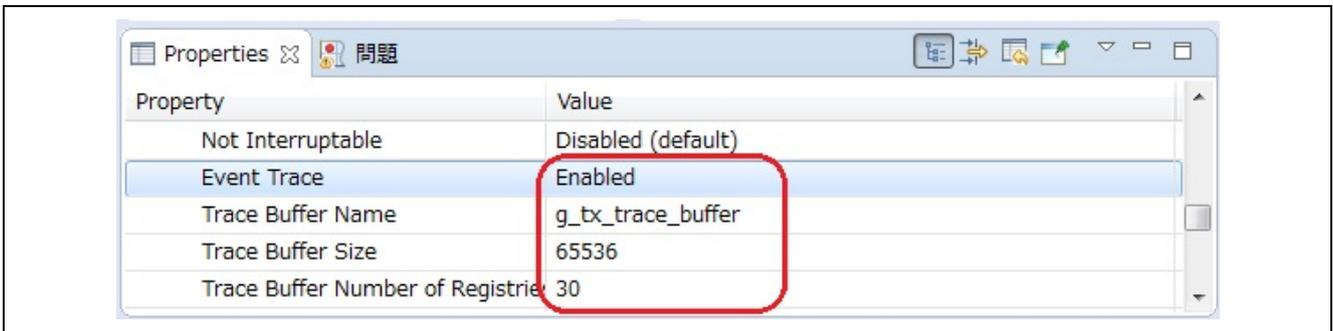
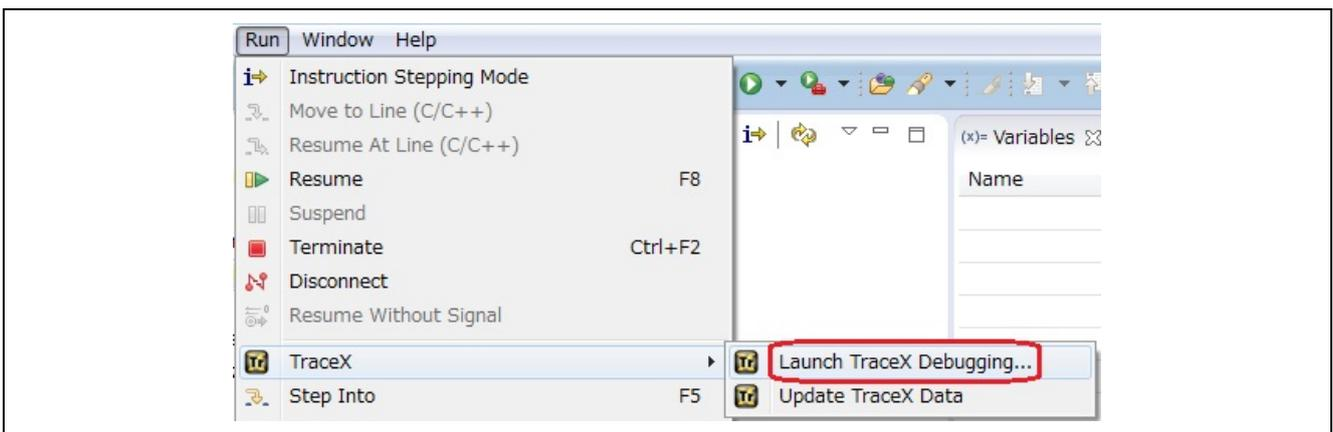
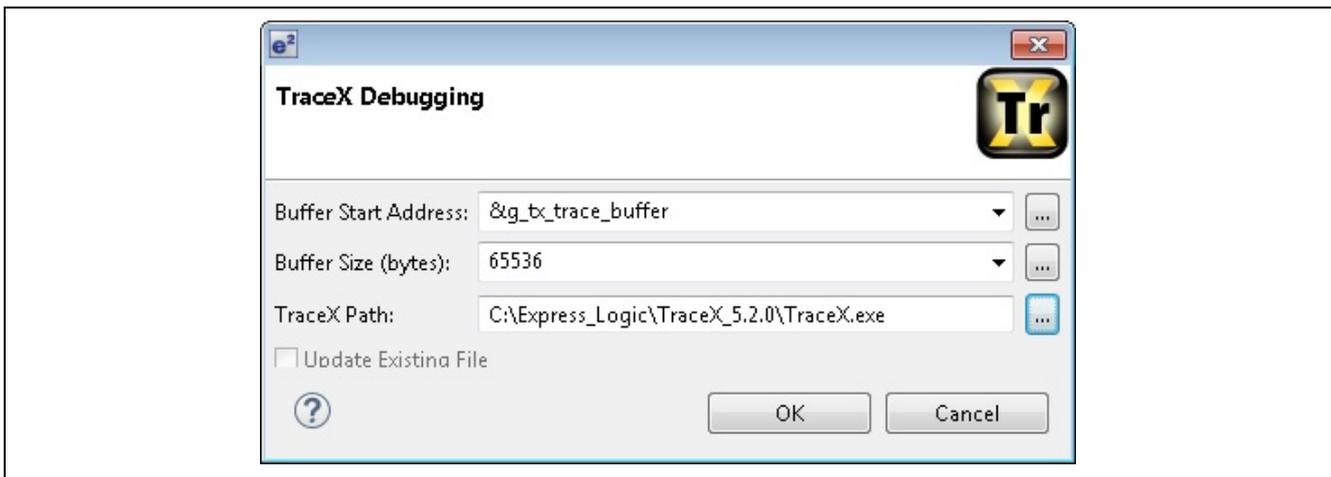

Figure 11 Setting the Event Trace
Figure 12 Setting the Start of TraceX Debugging
Figure 13 Setting the parameters for starting TraceX
4. Check the **Properties** tab page and set the **Event Trace** to **Enabled**. Set the **Trace Buffer Name**, **Trace Buffer Size**, and **Trace Buffer Number Registries** (see Figure 11), then update and build the project.
6. Use **TraceX** to check the result of the program’s execution. Set the method of starting **TraceX**. When the **Run > Launch TraceX Debugging** menu item (Figure 12) is selected, a dialog box to start **TraceX** opens (Figure 13).
Note: The parameters to launch TraceX in Figure 13 are the values specified in Figure 11.